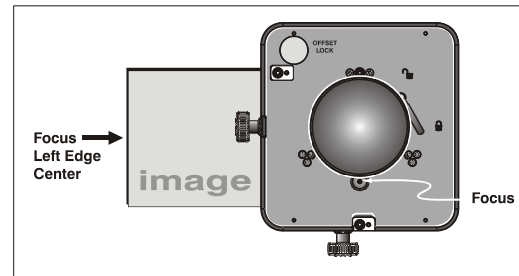

Figure 2.36. Adjust Focus at Left Edge
1. Adjust focus at the far left center edge of the image (Figure 2.36). If possible, reduce image size for easier image analysis.
- *If focus on the paper improves*, this indicates that the right side of the image is focusing *in front of* the screen. See Figure 2.36.